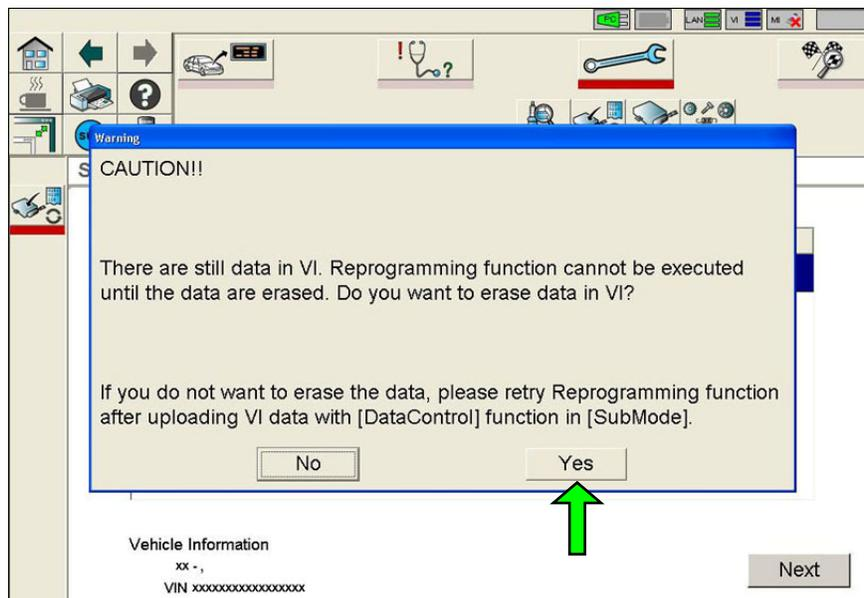

Figure 8
**NOTE:** If the screen in Figure 8 appears, there is data stored in the VI. Select “**Yes**” to proceed with Reprogramming.